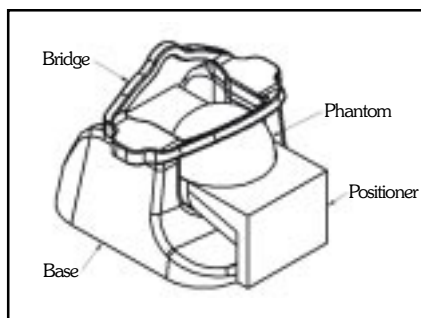

Figure 3: Positioning the phantom.
- QA Setup -- Select [New Study], [New Exam] or [New Pt] to set a new landmark. Remove any other surface coil (if present) from the cradle. Place the Phased Array Volume Neck Coil near the top of the cradle. Place the Head TLT Sphere with Nickel Chloride Phantom (GE Part # 46-265826G6) on the positioner in the coil (see Figure 3). Connect the Phased Array Volume Neck Coil connector to the phased array port. Align the laser with the marks on the coil bridge and with the cross marks on the coil sides. Position the coil at isocenter. The critical parameters for the QA scan protocol are listed on the next page. Select [Scan]. Scan the phantom. Observe the resulting image of the phantom which should be similar to Figure 4. Check to see that there are no artifacts in the image. This image will be used for determination of the coil's SNR.